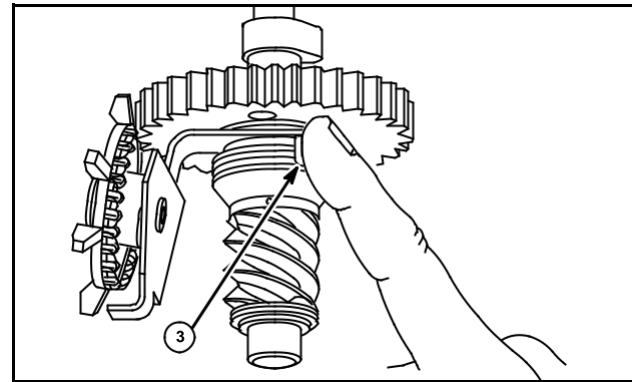

Fig. 54
1. Push on spring tang (3), Fig. 54, turning spring and clutch sleeve in a counterclockwise direction.